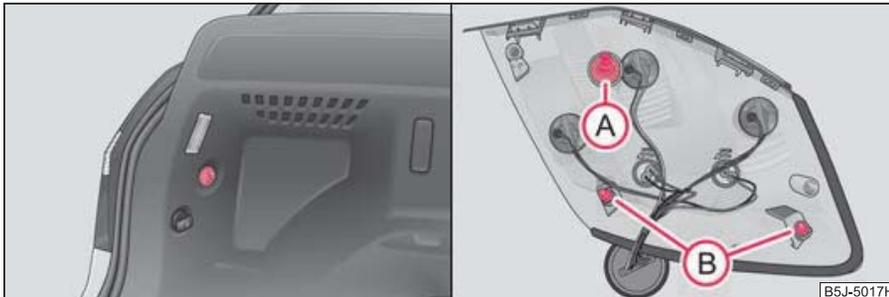

Fig. 177 Remove the rear light unit/install the rear light unit
- Hold tight the rear light unit with one hand and unscrew the plastic nut with the other hand ⇒ fig. 177 - left.
- When re-installing, first insert the rear light unit with the screw (A) into the opening of the body ⇒ fig. 177.
- Carefully press the rear light unit into the body in such a way that the pins (B) engage into the supports of the body.
- Hold the rear light unit tight with one hand, screw on the nut with the other hand and tighten it ⇒ fig. 177.